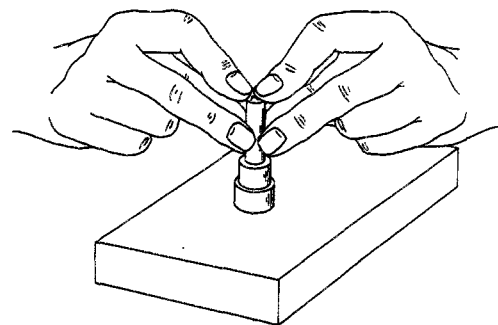

FIG. 21 LAPPING FUEL INJECTION NOZZLE
- m. Examine the flat sealing surface of the valve body (surface which contacts lower end of the holder body) and make certain surface is clean and free of scratches. This surface may be lapped, if necessary, using Allis-Chalmers 1000G lapping compound, castor oil, and a lapping block as shown in Fig. 21. After lapping, remove all traces of lapping compound with clean diesel fuel.